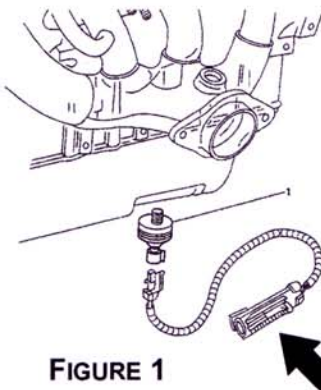

FIGURE 1
STEP 3: LOCATE THE KNOCK SENSOR UNDER THE REAR EXHAUST MANIFOLD. LOCATE EXTENSION HARNESS SHOWN IN **FIGURE 1**. ATTACH THE JUMPER HARNESS IN KIT IN BETWEEN THE CONNECTOR MARKED BY THE ARROW. RUN THIS WIRE INTO THE PASSENGER COMPARTMENT. (**NOTE:** THIS IS THE ONLY WIRE THAT NEEDS TO BE RUN INTO THE PASSENGER COMPARTMENT FROM THE ENGINE COMPARTMENT. SOME SUGGESTIONS ARE THROUGH THE WEATHER STRIPPING BETWEEN THE DOOR AND THE BODY OF THE CAR ON EITHER DRIVER OR PASSENGER SIDE OR THROUGH THE GROMMET LOCATED ABOVE THE BRAKE PEDAL.) THIS WIRE SHOULD BE RUN TO THE LOCATION OF THE ESC MODULE.